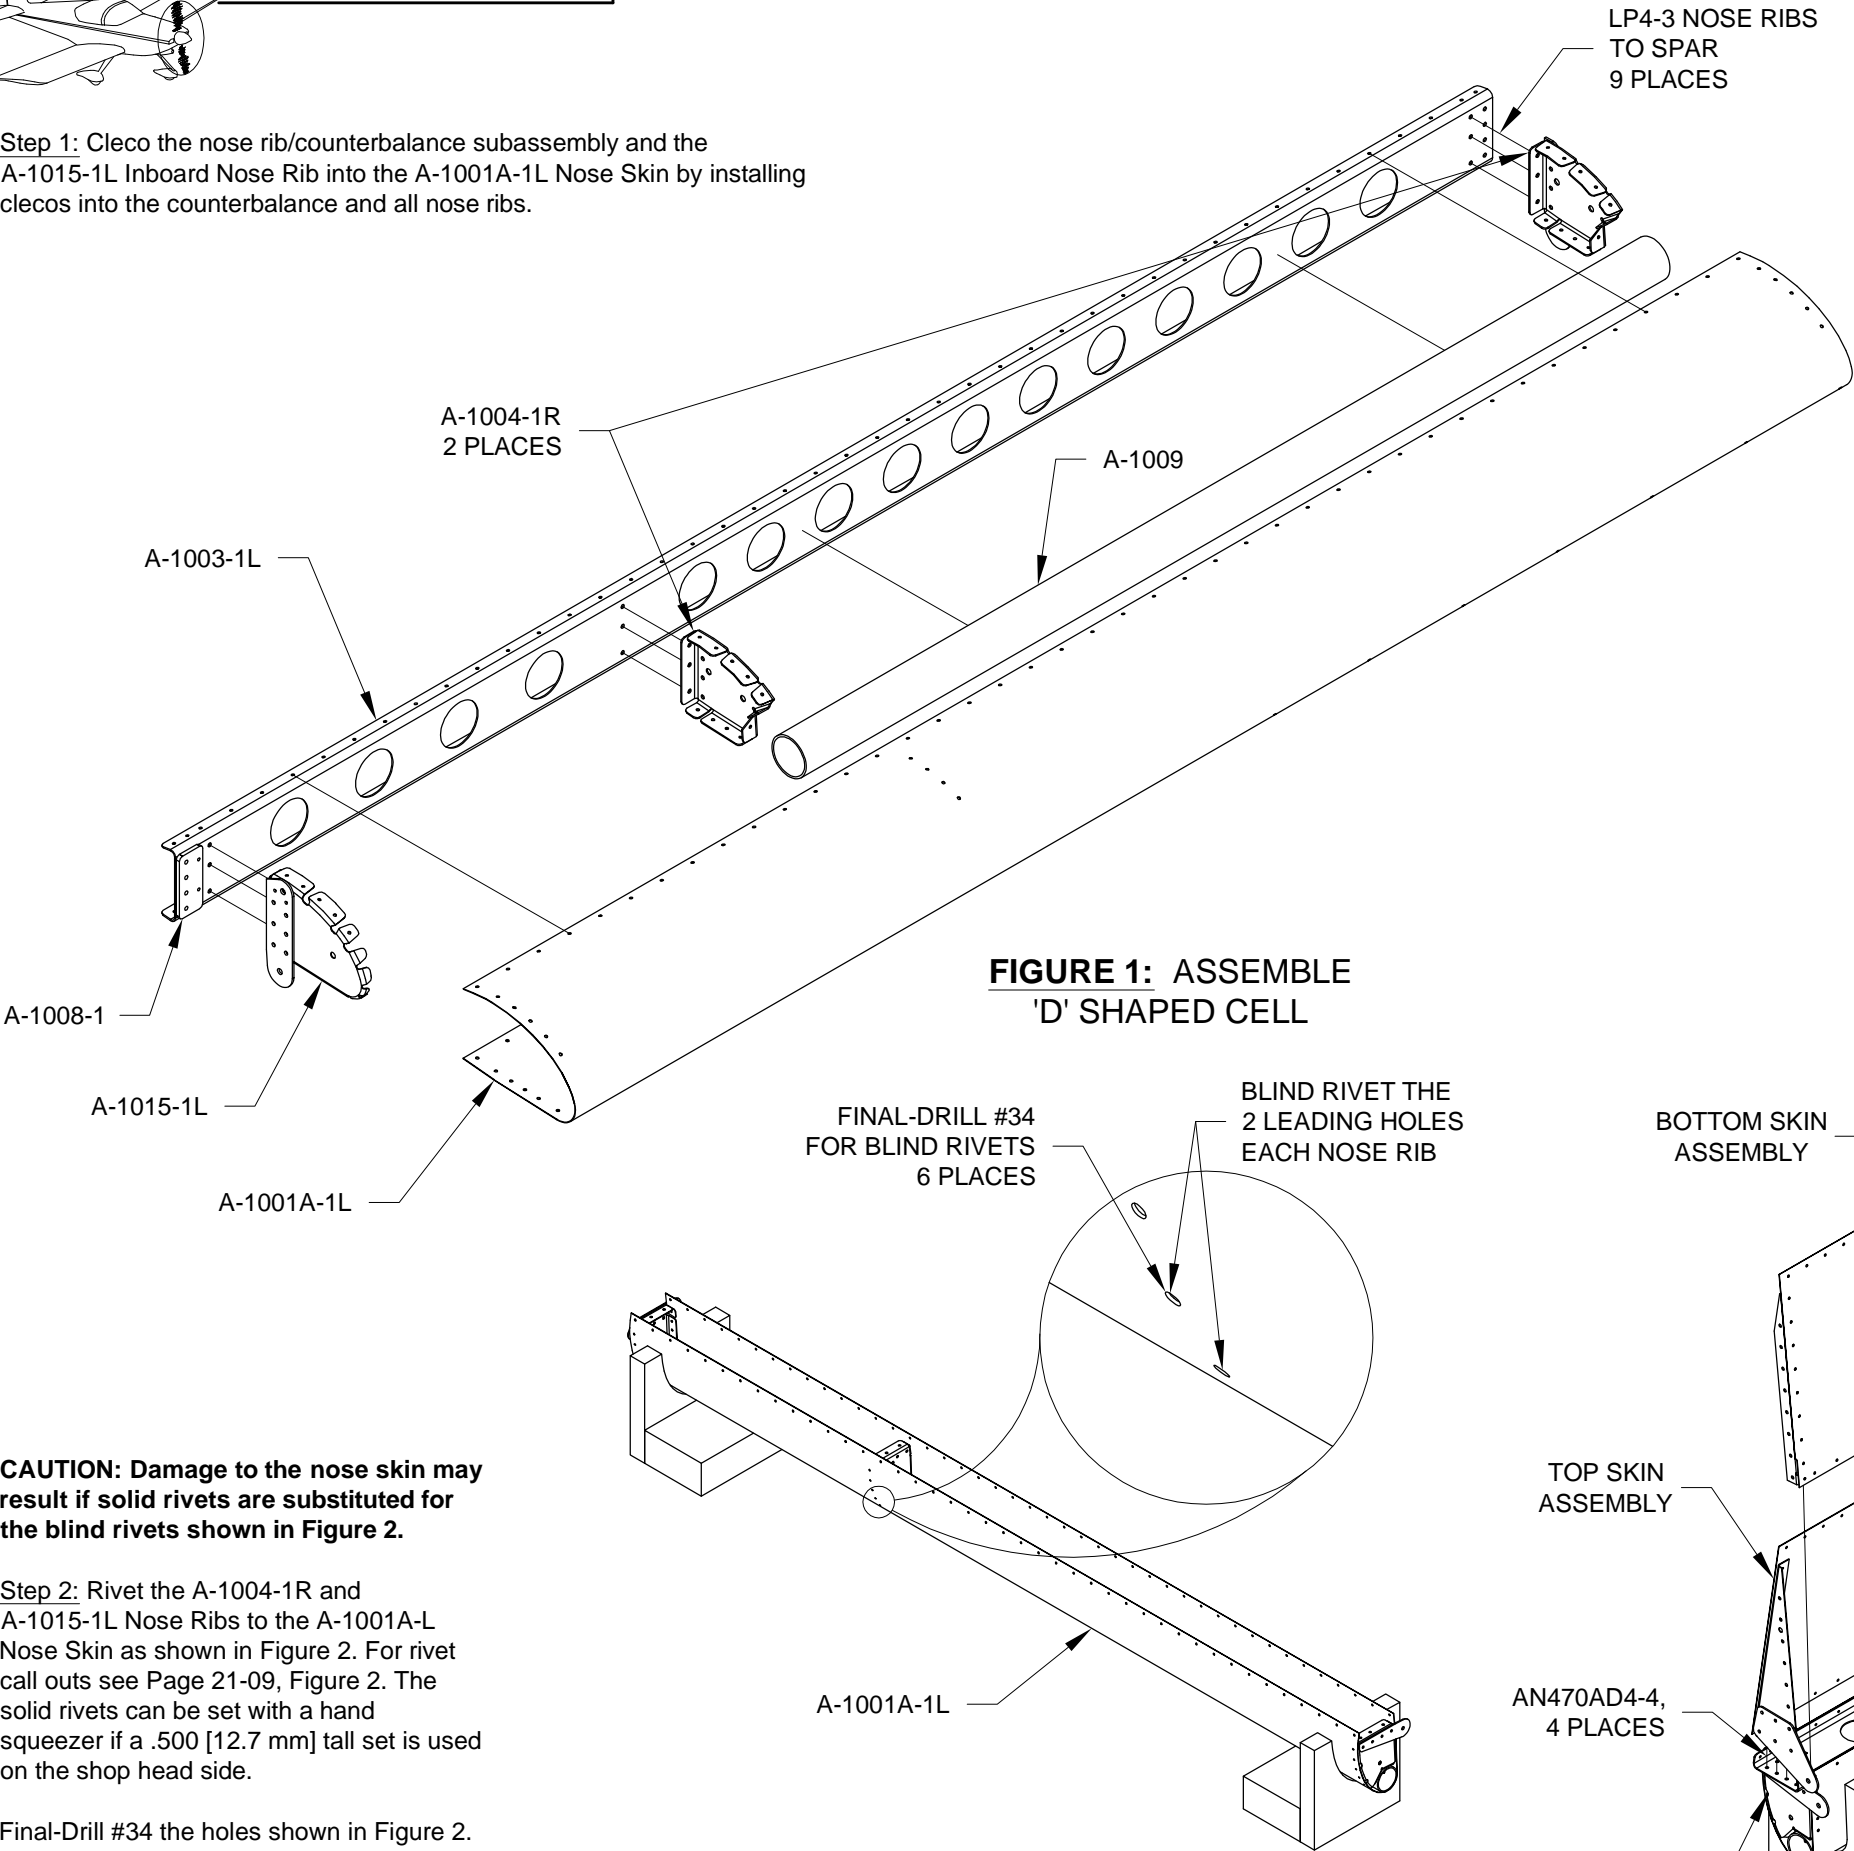

FIGURE 1: ASSEMBLE 'D' SHAPED CELL
Step 3: Cleco the spar assembly to the A-1001A-1L Nose Skin and to the A-1004-1R Nose Ribs as shown in Figure 1. Cleco the spar assembly to the A-1015-1L Inboard Nose Rib.